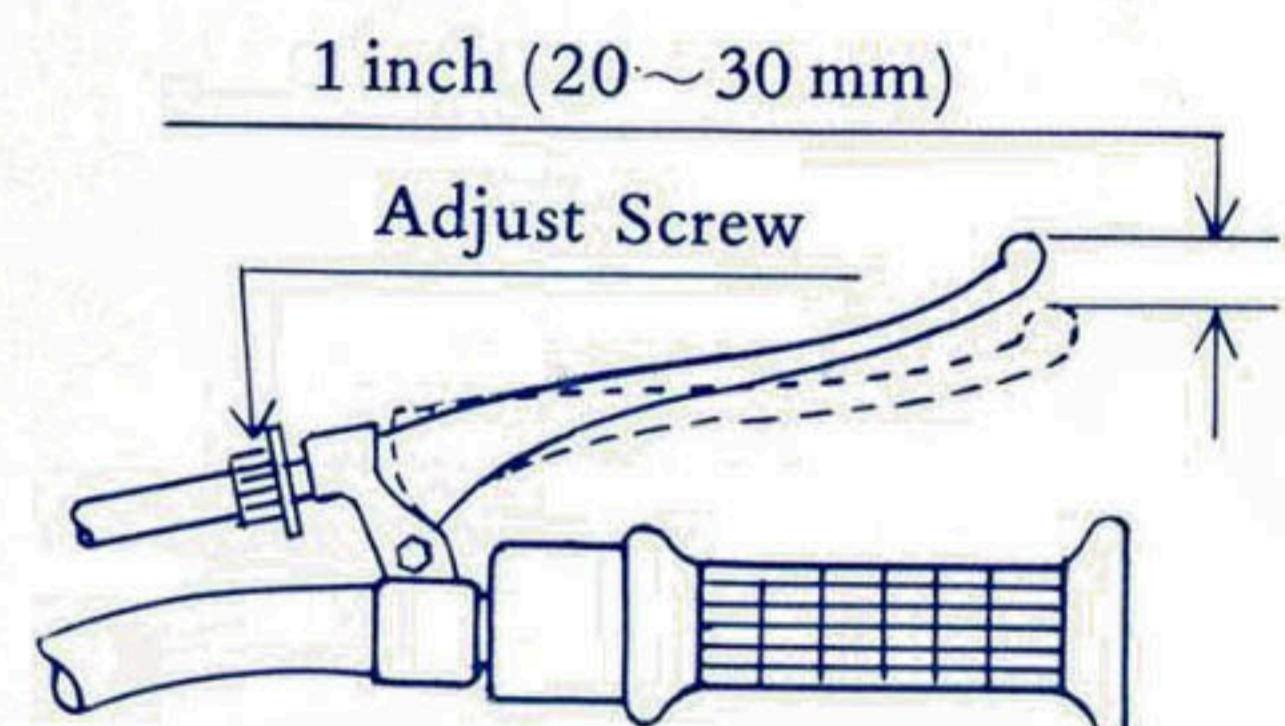

Fig. 27
1. Adjust front brake lever play to about 1 inch (20 ~ 30m/m) as shown in fig. 27.